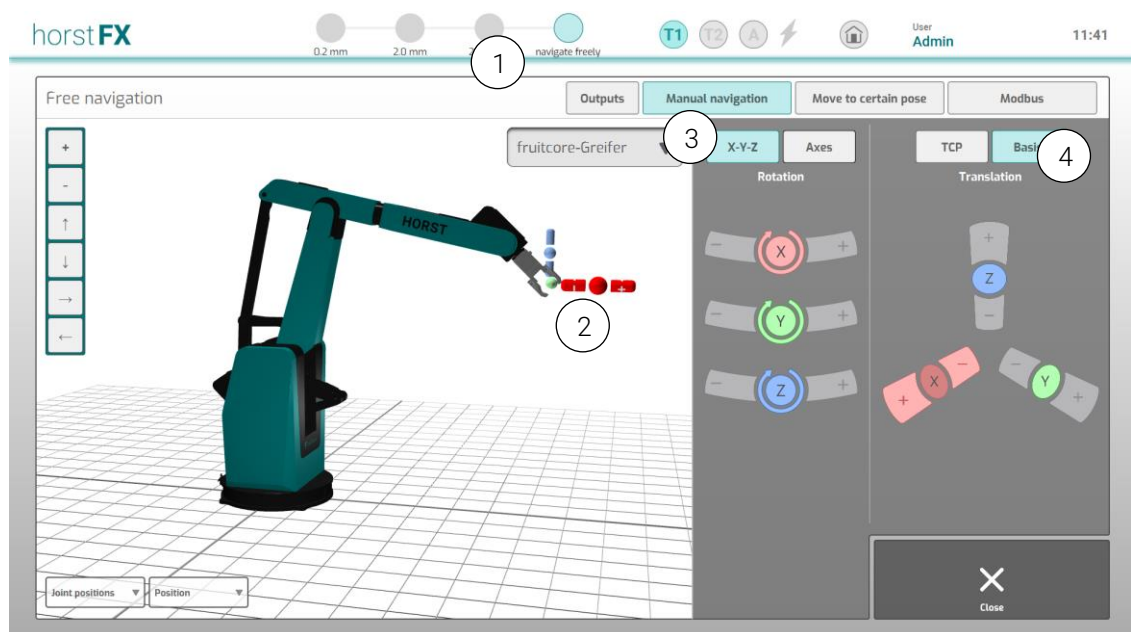

Fig. 5-3: *Free travel – X-Y-Z – Base menu*
In the menu bar (Fig. 5-3) (1) you can set how far the robot will move when you hold down the **+** or **-** button. Move in **Jogging mode** (step by step in millimeters) or continuously in **Free** mode.
To illustrate the directions of movement, the selected coordinate system is always shown on the robot model with the corresponding axis colors (Fig. 5-3) (2). Here, the origin of the represented coordinate system is in the TCP of the robot model.